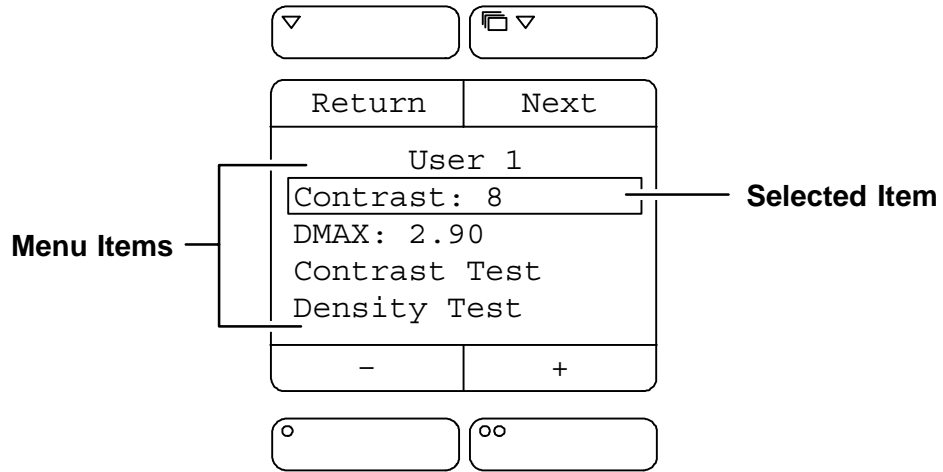

Figure 2-5. User Settings Menu – Contrast Setting Selected
- If Contrast or DMAX is selected, the + and – labels are displayed. Refer to Figure 2-5.